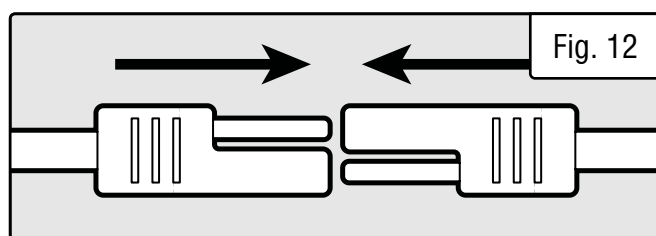

Fig. 12
2. Connect the two ends of the quick-connector on the battery to the ends of the quick-connector on the starter motor (Fig. 12).